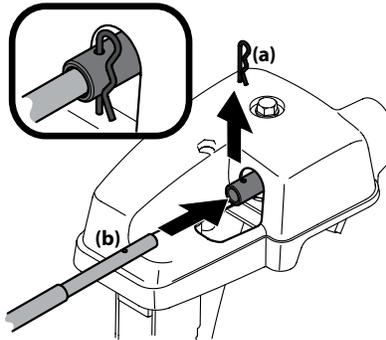

Figure 2-29
4. Remove hairpin clip (a) from rear of chute control assembly. See Figure 2-29.
5. Insert flex shaft (b) removed during Handle Assembly from lower handle into rear of chute directional control head. See Figure 2-29. Secure flex shaft to chute control head with hairpin clip (a) removed in Step 4.